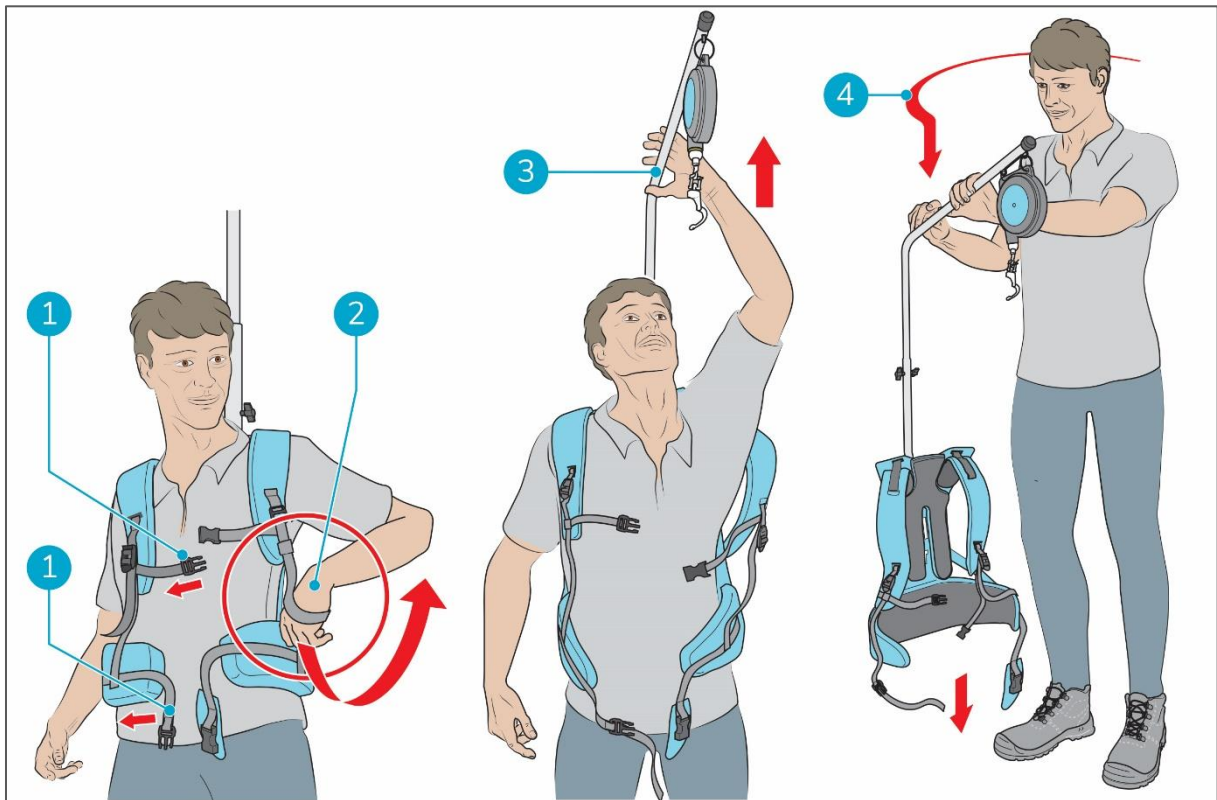

Figure 14
6. Detach the chest strap and waste strap (Figure 14, pos. 1).
7. Take one arm through the shoulder strap (Figure 14, pos. 2) and take hold of the support tube (Figure 14, pos. 3).
8. Take off the i-suit (Figure 14, pos. 4) and close the straps.